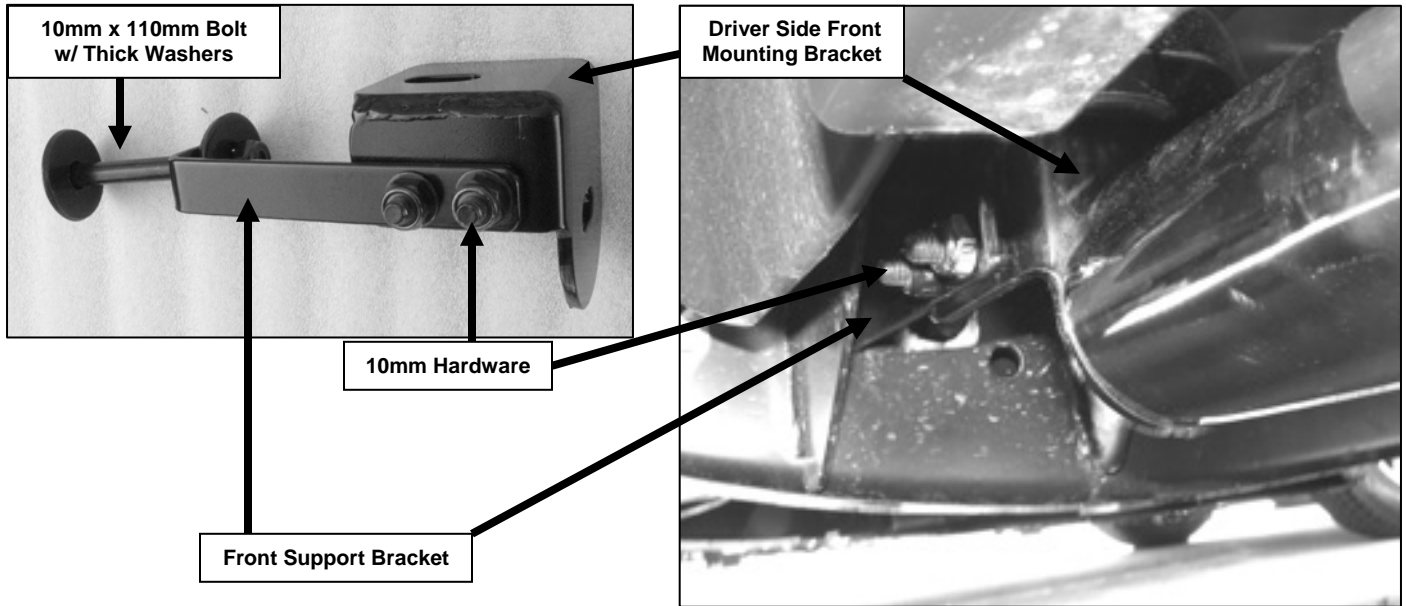

Figure 1
3. Mount Driver Front and Rear Mounting brackets to body mounts with the included (2) 12-1.75mm x 110mm Hex Head Bolts, (2) 12mm Flat Washers, and (2) 12mm Lock Washers. Reuse factory bushings and steel washer plates. Do not tighten at this time.
4. Locate (1) Front Support Bracket and mounted to Driver Side Front Mounting Bracket with the included (2) 10-1.50mm x 30mm Hex Head Bolts, (2) 10mm Nylock Nuts, and (4) 10mm Flat Washers (Figure 1). Do not tighten at this time.
5. Mount the other side of the (driver) Front Support Bracket to the existing hole on the frame by using the included (1) 12-1.75mm x 110mm Hex Head Bolt, (1) 12mm Nylock Nut, and (2) 12mm Thick Fender Washers (Figure 1). Do not tighten at this time.